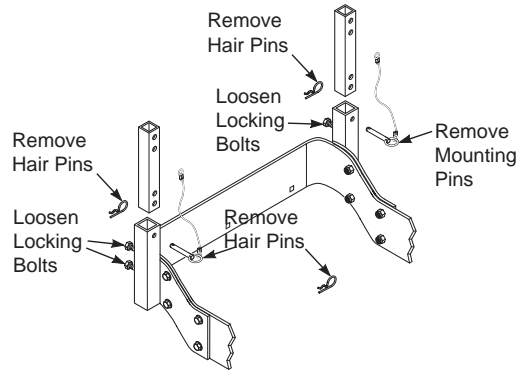

FIGURE 4-2
4. Loosen the four (4) locking bolts and jam nuts. Remove the two (2) pins and hair pins holding the hopper assembly to the mounting posts on the rear of the machine. See Figure 4-2.